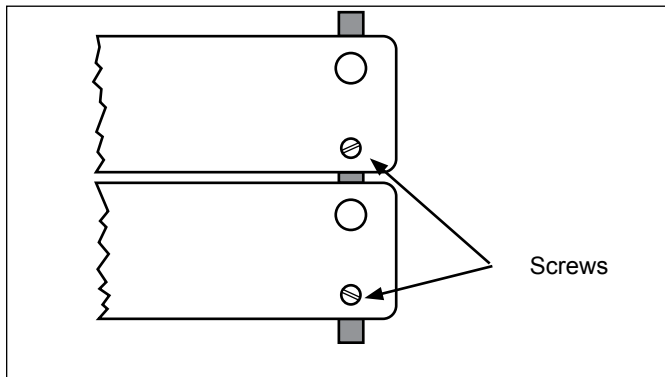

Figure 8. Master Links
2. Apply **McD® All-Purpose Super Concentrate (APSC) (HCS)** on a **non-scratch** pad and clean the vertical Conveyor Belt for two complete revolutions, wiping side to side. Use the dual holes in the master links as a reference (see Figure 8).